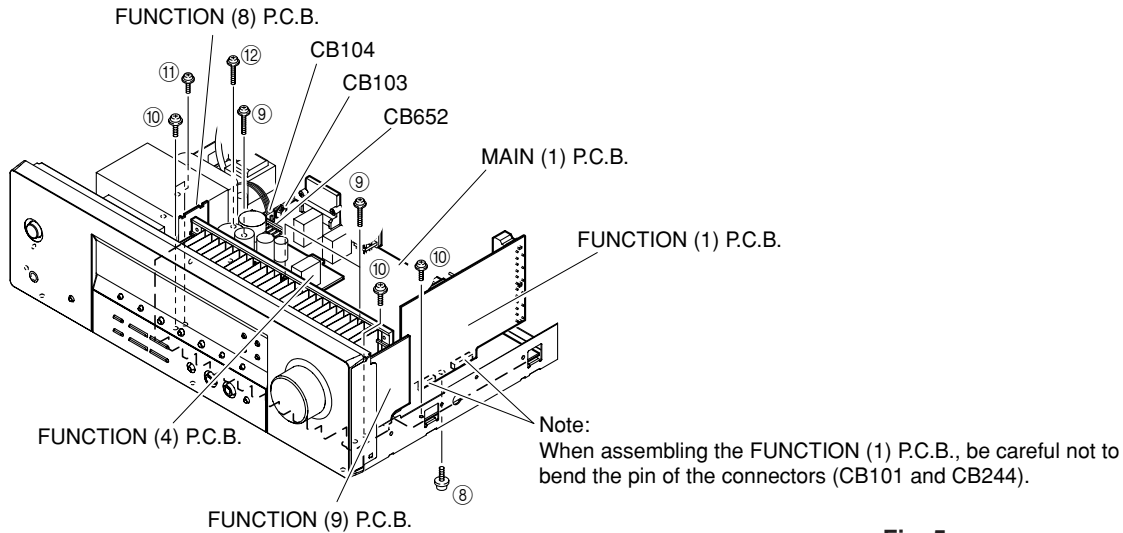

Fig. 5
5. Removal of MAIN (1), FUNCTION (1), FUNCTION (8) and FUNCTION (9) P.C.B.s
- Remove 1 screw (⑧). (Fig. 5)
- Remove FUNCTION (1) P.C.B. (Fig. 5)
- Remove CB103, CB104 and CB652. (Fig. 5)
- Remove 3 screws (⑨). (Fig. 5)
- Remove 4 screws (⑩). (Fig. 5)
- Remove MAIN (1), FUNCTION (4), FUNCTION (8) and FUNCTION (9) P.C.B.s. (Fig. 5)
- Remove 1 screw (⑪). (Fig. 5)
- Remove 1 screw (⑫). (Fig. 5)
- Be sure to connect the ground of MAIN (1) P.C.B. (G103, G104, G241) and FUNCTION (4) P.C.B. (G651) to the chassis with a jumper wire or the like.